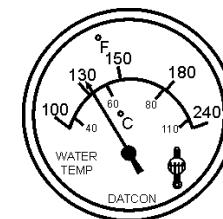

Figure 49. Coolant Temperature Gauge
- The **coolant temperature gauge** (Figure 49) will indicate the coolant temperature. Under normal operating conditions the coolant temperature should be between 167°~203°F (75°~95°C) (**Green Zone**).